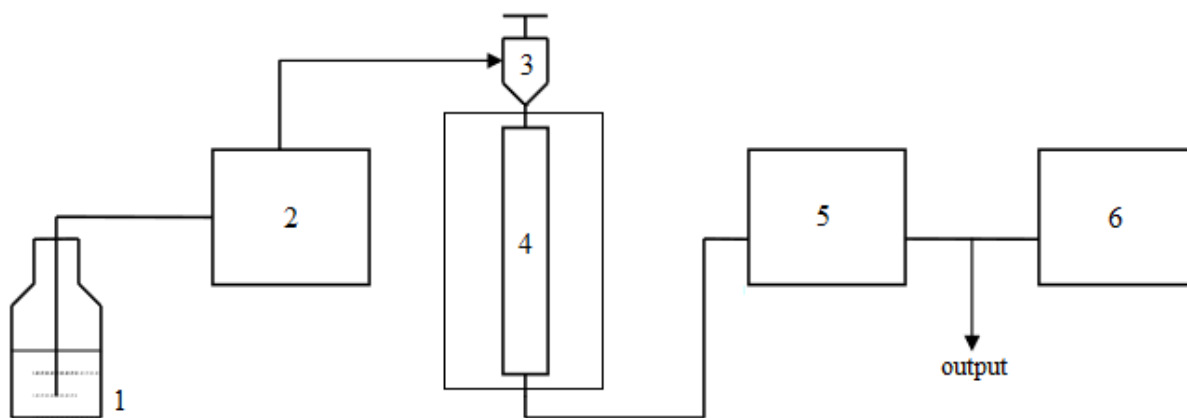

Fig. 91: Gas Chromatograph Diagram
A gas chromatograph (GC) consists of the following elements (Fig. 91):